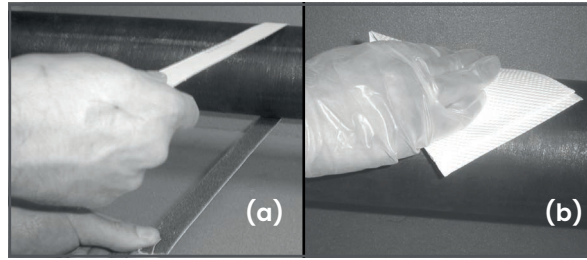

Figure 38: Filing (a) and Degreasing (b) the Pipe Surface
3. Remove any loose paint or rust with a file or emery cloth, as shown in *Figure 38*. If the finish is mirror-smooth, roughen the surface.
4. While wearing appropriate gloves, degrease the surface as shown in *Figure 38*.